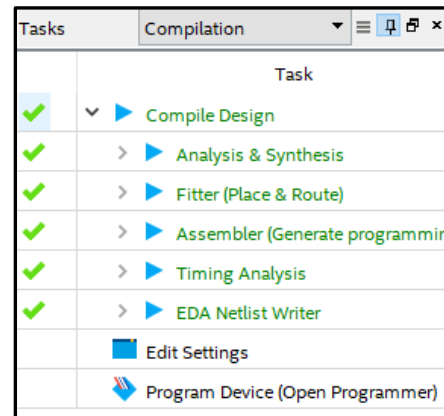

Figure 5: Compile Complete
1. To compile your design, click on the blue isosceles triangle button (▶), or double click on “Compile Design” in the task utility window, or select “Processing” and then “Start Compilation”. You will be asked to save the bdf file because it has been modified. Select “Yes.” After the file is compiled (which depending on your computer, may take 30 seconds to two minutes), your task utility window should be similar to the image in Figure 5.